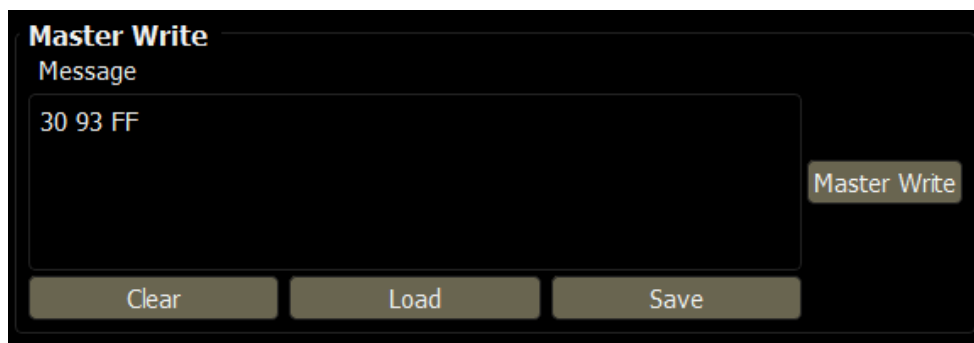

Figure 6.14. I²C Master Write Procedure
To test the I²C interface, data can be written to the register 0x3093 of the camera, as shown in Figure 6.14. Additional register information can be obtained through the IMX258-0AQH5 camera data sheet available from Sony. An example of how to execute this transaction is discussed in the next section.
5. Enter the data and address into the message box – two bytes of address and one byte of data as shown in Figure 6.14. For example, to write address 0x3093 with 0xFF data, then enter “30 93 FF” into the message box.